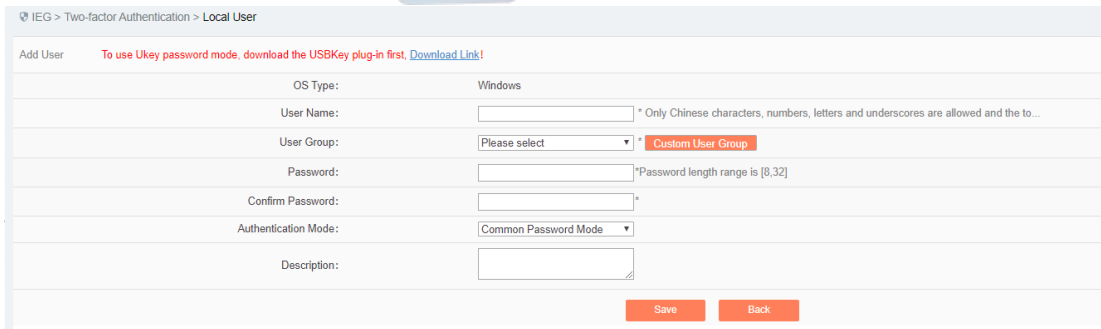

Fig.4-71 Add User Interface Normal Password
4) User creation. Click <Add> in the rule configuration page of the template to pop up the user creation page, as shown in the figure below. There are two ways to fill in the user role, the default one is the drop-down button, and the contents in the drop-down option are the common user group information reported from the client. The second way is to click the toggle button behind the user role. The user role can be entered manually after clicking the custom user group. (Note: manually entered user roles must exist on the client, otherwise the creation fails after distribution). There are two options for authentication mode, the default one is normal password mode, or the USBKey password mode, which needs to insert the USBKey tool, that is, Ukey for short. After inserting the USBKey, change the modified name later. If there is no USBKey information in the drop-down box of the inserted page, click <Refresh a List>, click <Save> to complete the creation successfully after entering the information. (As shown in Fig.4-71/4-72):